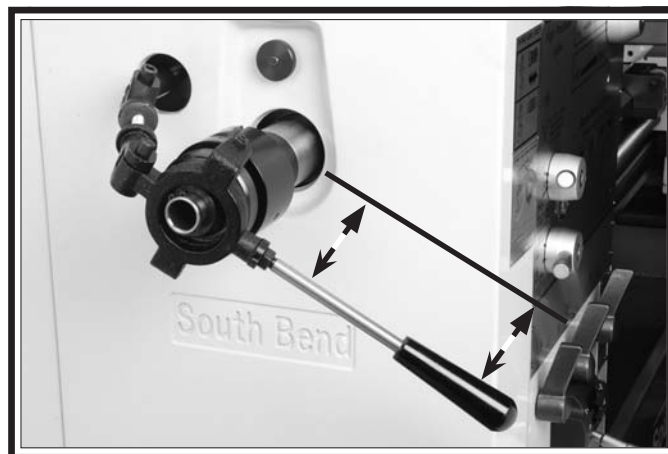

Figure 9. Clevis positioning so lock lever is parallel with gear cover.
17. Remove the clevis and thread it onto the support stud approximately 1". Adjust it so when the clevis is reinstalled onto the collet attachment, the lock lever is parallel with the gear cover, as shown in **Figure 9**.